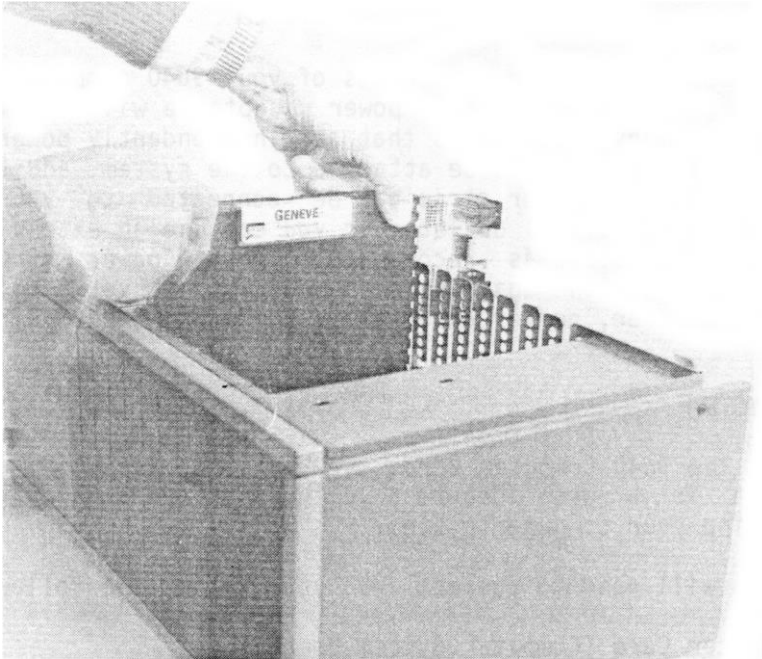

Figure 3 – This is the 9640 computer card. Connector sockets are at the rear
5. The label identifying the 9640 system board is on the very top of the card. At the rear of the Card are the keyboard, video, mouse, and joystick connector ports. Hold the 9640 Computer Card (label side up) with the connector ports facing towards the rear of the PE box. See Figure 3.